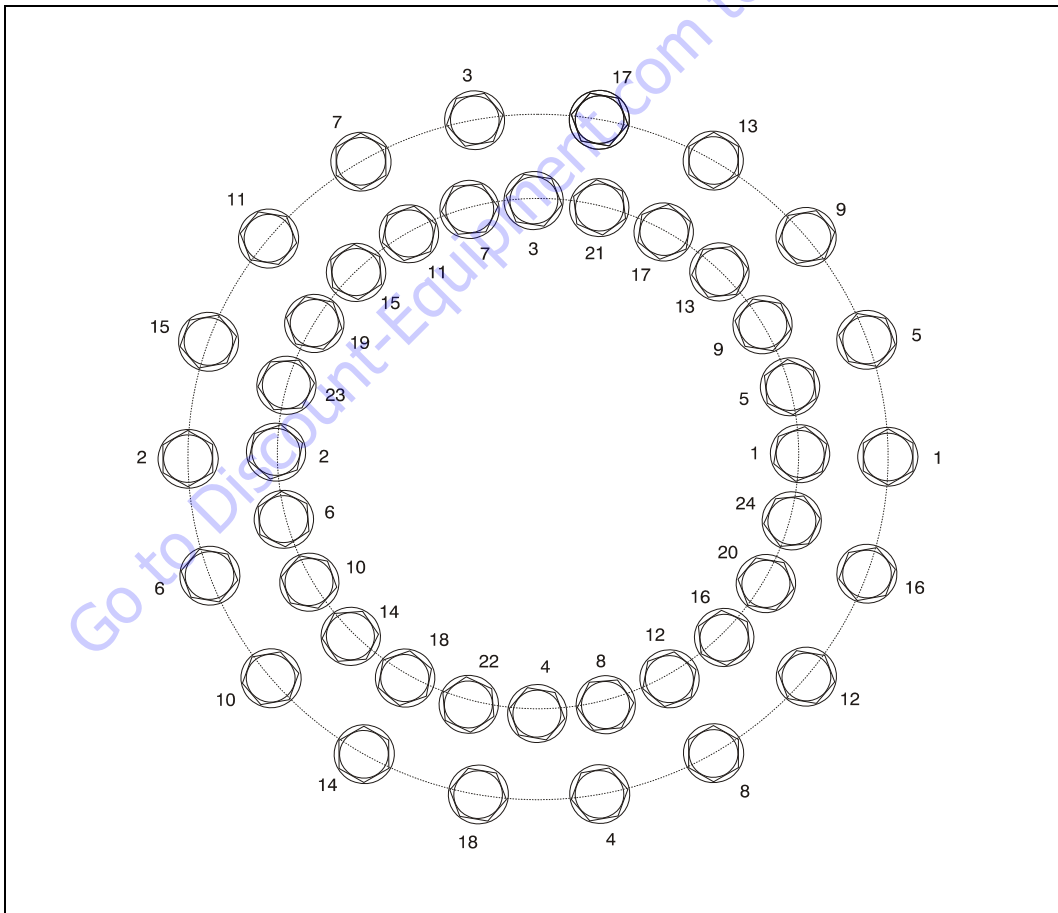

Figure 3-24. Swing Bearing Torquing Sequence
- b. Line up high spot (blue) of bearing with center tooth of worm gear. Set backlash to 0.008 - 0.010 inch (0.20 - 0.25 mm). Tighten capscrews as shown in Figure 3-24., Swing Bearing Torquing Sequence.
- g. Following the torque sequence diagram shown in Figure 3-24., tighten the bolts to an initial torque of 130 ft. lbs. (175 Nm). Then following the same sequence, tighten to a final torque of 190 ft. lbs. (260 Nm).
- l. Following the torque sequence shown in Figure 3-24., tighten the bolts to an initial torque of 130 ft. lbs. (175 Nm). Then following the same sequence, tighten the bolts to 190 ft. lbs (260 Nm).